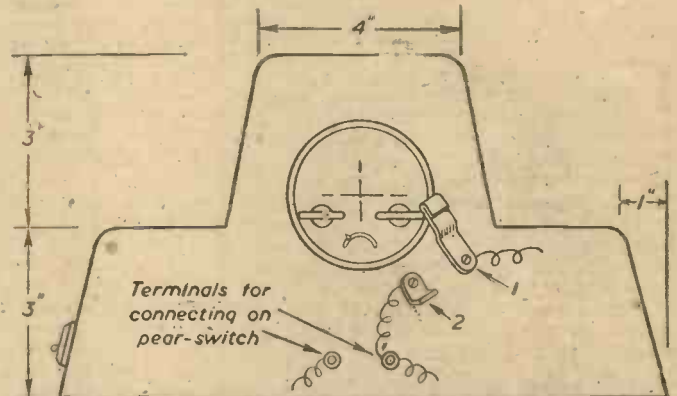

Fig. 2.—Rear view of clock, showing arrangement of contact brackets.
The contact bracket (1), made from brass and seen in position in Fig. 2, must be an easy fit on clock-case. The clock is fitted